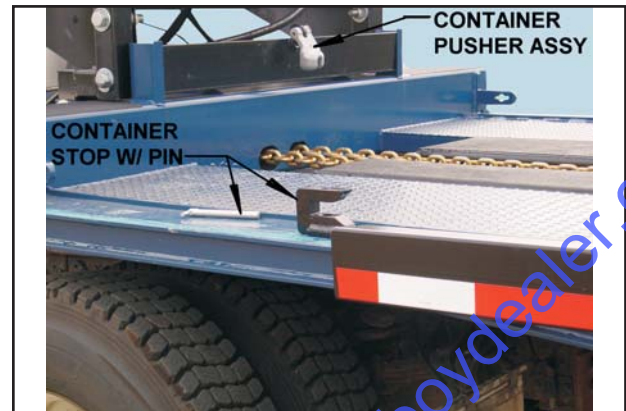

Figure 3-6 Container Pusher Assembly and Stops
- h. Install provided container stops on the trailer where front of container is going to be pulled up to (**See Figure 3-6**).
a. Connect the container pusher angle in front of the container into the gearbox chain (**See Figure 3-6**).